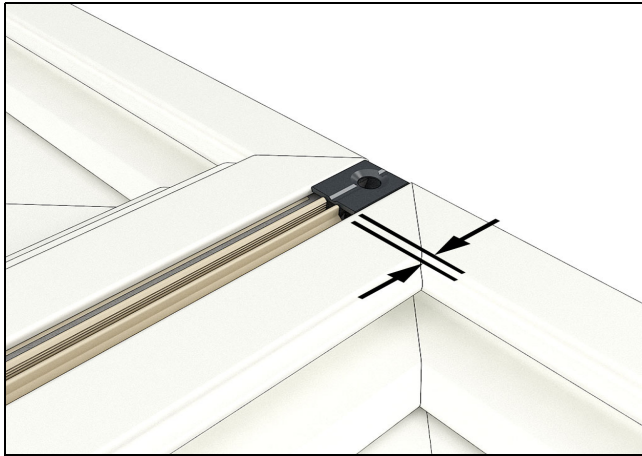

Figure 15
15. Fully seat weather strip pieces onto the aluminum mulling pin between all end plugs. See Figure 15.